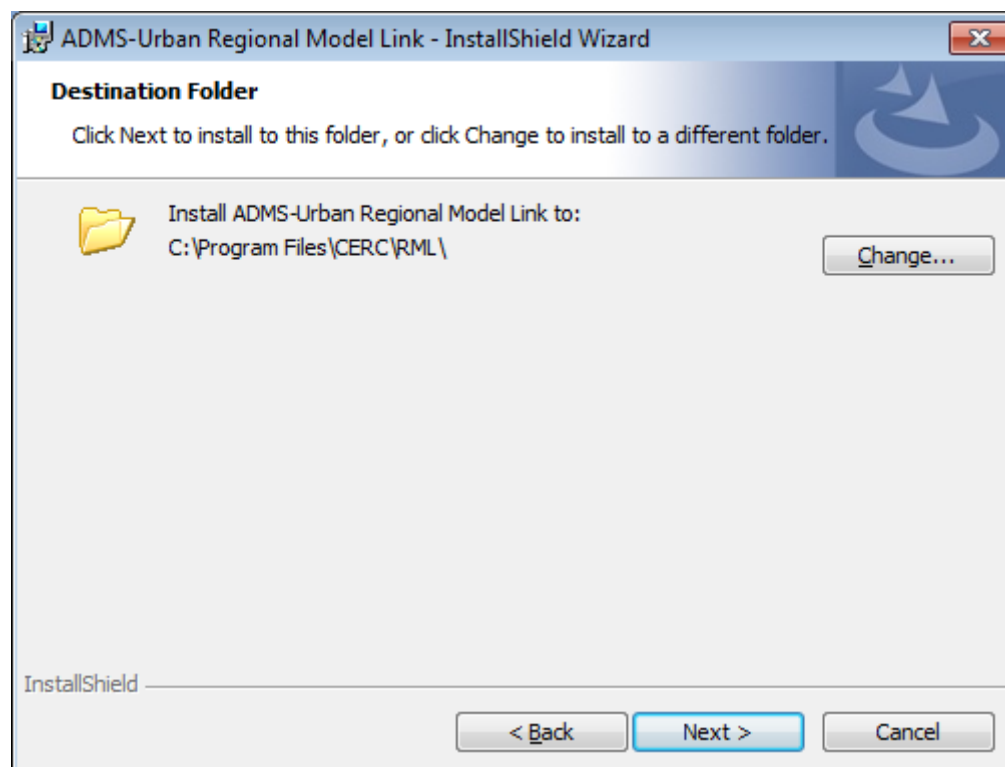

Figure 2.4 – The ADMS-Urban RML Controller Destination Folder screen.
- Step 4** Enter your user name and organisation in the designated places. Click **Next >** to go through to the Destination Folder screen, as shown in **Figure 2.4**.